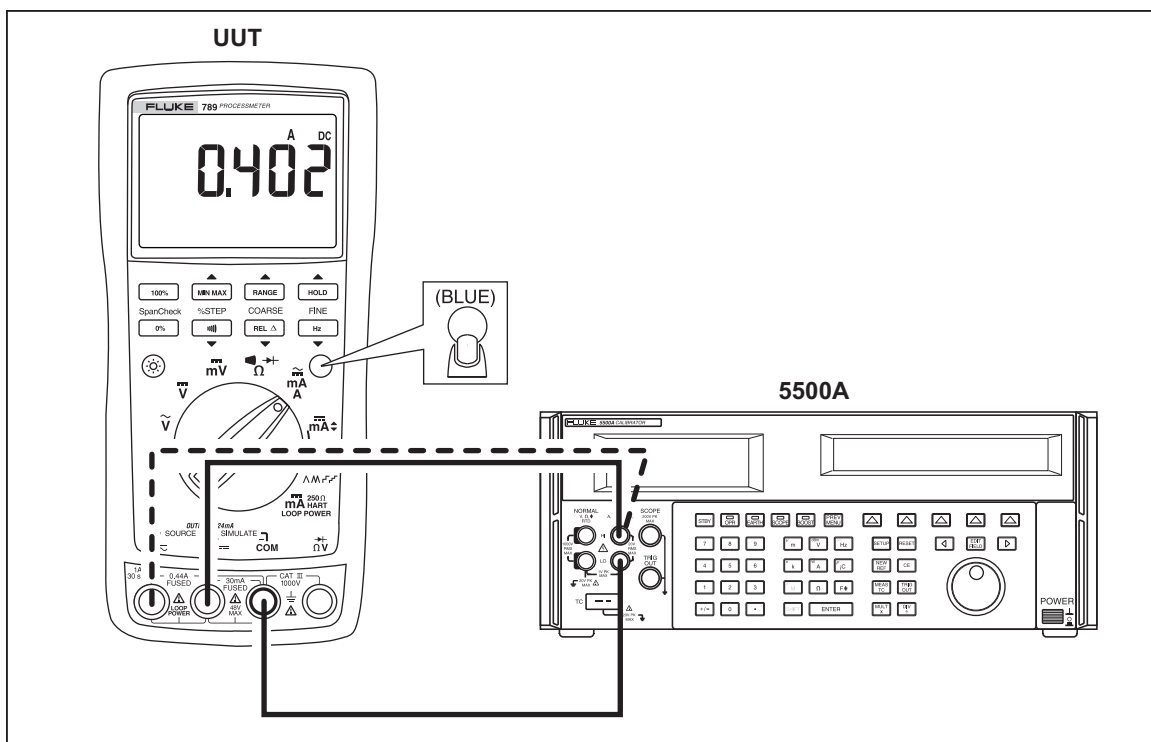

Figure 4. Current Measurement Test Connections
3. Connect the calibrator to the **COM** and $\overset{\sim}{mA}$ terminals on the UUT as shown in Figure 4.